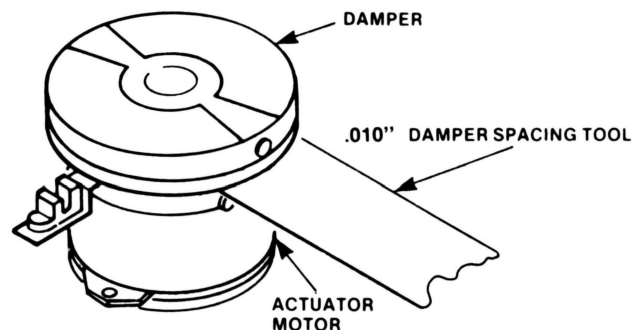

FIGURE 11. DAMPER INSTALLATION
- E. Obtain the damper spacing tool (P/N 600548). Place the spacing tool between the damper and the track 000 clamp (see Fig. 11). Slide the damper against the tool and tighten the allen screw. Reinstall the filler screw.